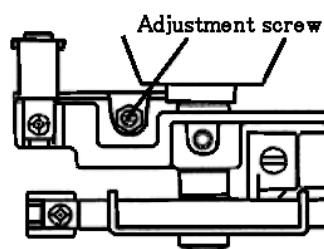

Fig.2
2. Turn the adjustment screw at the left side of lower shaft, adjust the feed dog height.(Fig. 2)